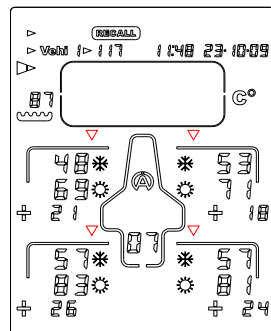

Figure 13
- 7) Press again the button  or  : the Tyrecontrol displays the last phase of data, that is to say the inside temperatures of the tires, before  and after  race + the gaps (*figure 13*).